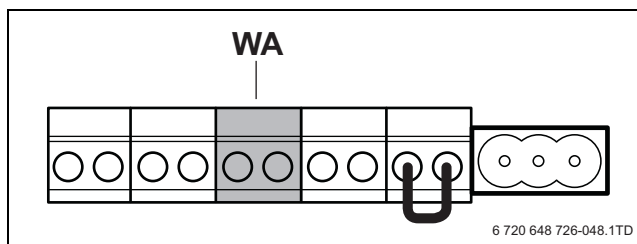

Fig. 48 Terminal strip - potential-free heat demand (connection colour green)
- Connect the potential-free heat demand contact to the green WA terminal (→ fig. 48). The maximum allowed resistance of this circuit is 100 ohms. Use a 2-core cable of 0.75 mm².
- Connect the 230 Volt converter (grey box) via the pair of black low voltage cable to terminal WA. See figure 48.